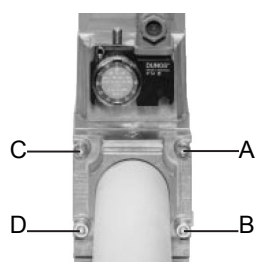
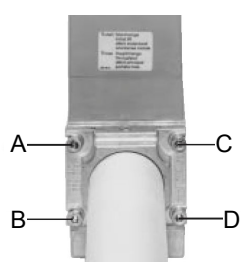

Fig. 9
Fig. 10
1. Loosen screws A and B **do not** unscrew (Fig. 9 - Fig. 10).
2. unscrew screws C and D (Fig. 9 - Fig. 10).
3. Remove MultiBloc between the threaded flanges (Fig. 10).